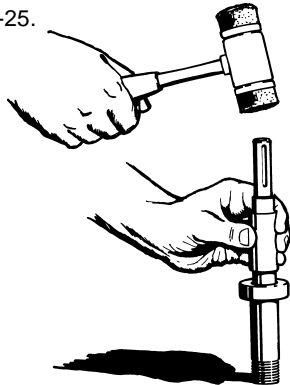

Figure 4-25
2. Insert the shaft into the pipe so the bearing is between the pipe and the shoulder of the shaft. Refer to Figure 4-25.